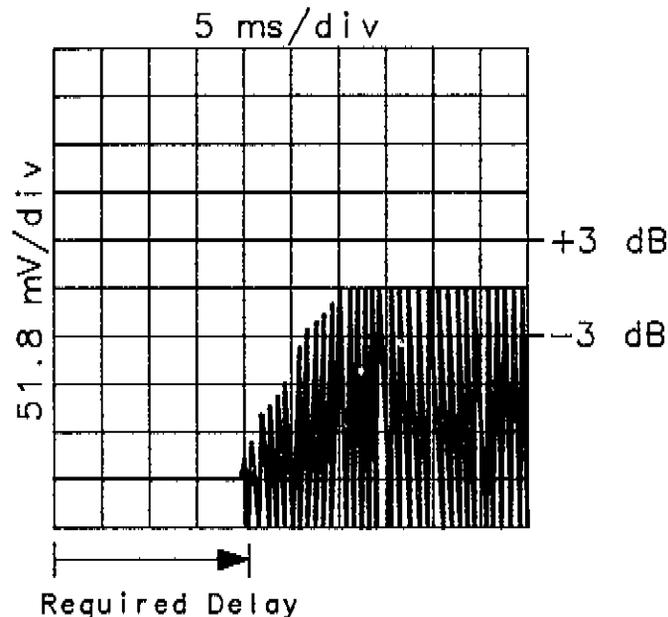

Figure 4-9. Amplitude Recovery Switching Waveform
24. Press the digitizer (STORE M1) key on the oscilloscope and then step the Signal Generator to the stop frequency (6 600.000 MHz). The oscilloscope should digitize the switching waveform as the frequency changes. The waveform should be as shown in Figure 4-9.